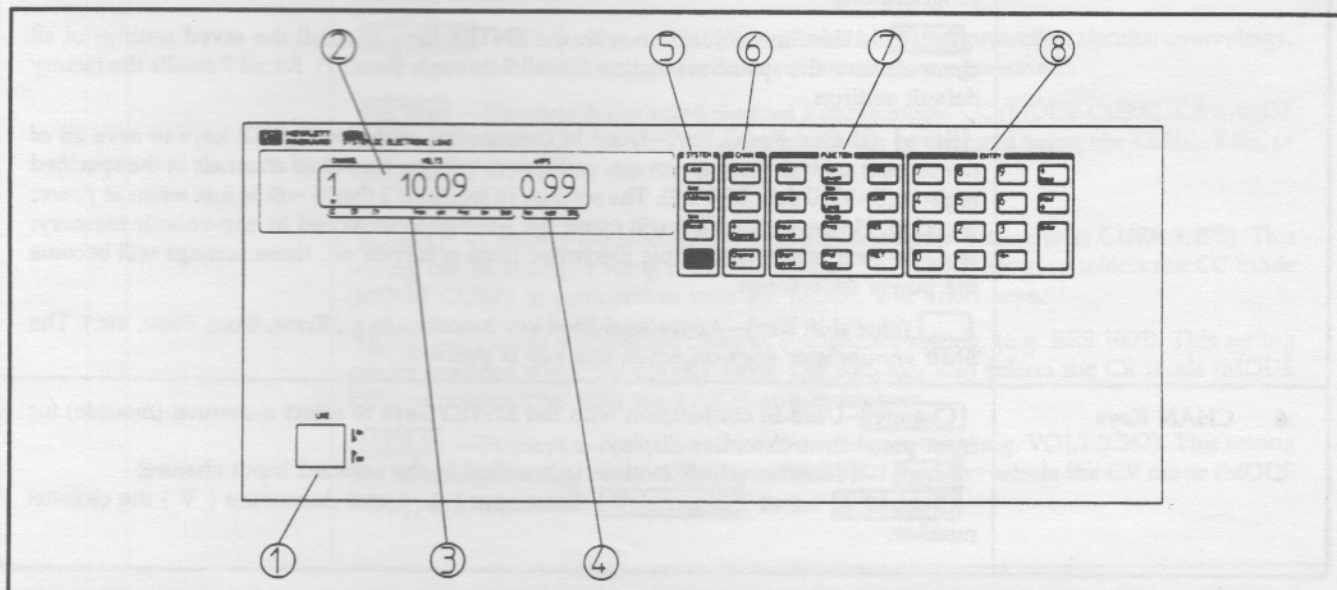

Figure 4-1. HP 6050A Front Panel
The Multiple Electronic Load can be programmed locally using the controls and indicators on the front panel. As shown in Figure 4-1, the front panel's controls and indicators include a 12-segment LCD display and a keypad having four groups of keys (SYSTEM, CHAN, FUNCTION, and ENTRY). Table 4-1 gives a brief description of each control and indicator.
2 LCD Display	Normally displays the selected input channel number and the actual voltage and current at that input, for example, "1 10.09 0.99" as shown in Figure 4-1. When programmed from the front panel, the channel number and the function being programmed are displayed. For example, "1 CURR 1.000" indicates that the channel 1 CURR function is set to 1.00 amperes.
3 Electronic Load Status Annunciators	<p>CC—Indicates the selected channel is in the constant current (CC) mode. Note that Figure 4-1 illustrates that channel 1 is in the CC mode (CC annunciator is on).</p> <p>CR—Indicates the selected input channel is in the constant resistance (CR) mode.</p> <p>CV—Indicates the selected input channel is in the constant voltage (CV) mode.</p> <p>Tran—Indicates that transient operation is enabled for the selected input channel.</p> <p>Unr—Indicates that the selected input channel is unregulated (applies only in the CC mode and in the middle and high ranges of the CR mode).</p> <p>Prot—Indicates when channel protection features (OC, OV, OP, OT, etc.) are active on any channel.</p> <p>Err—Indicates that remote programming error(s) have occurred.</p> <p>Shift—Indicates that the shift key, bottom key (blue) in SYSTEM group, was pressed.</p>